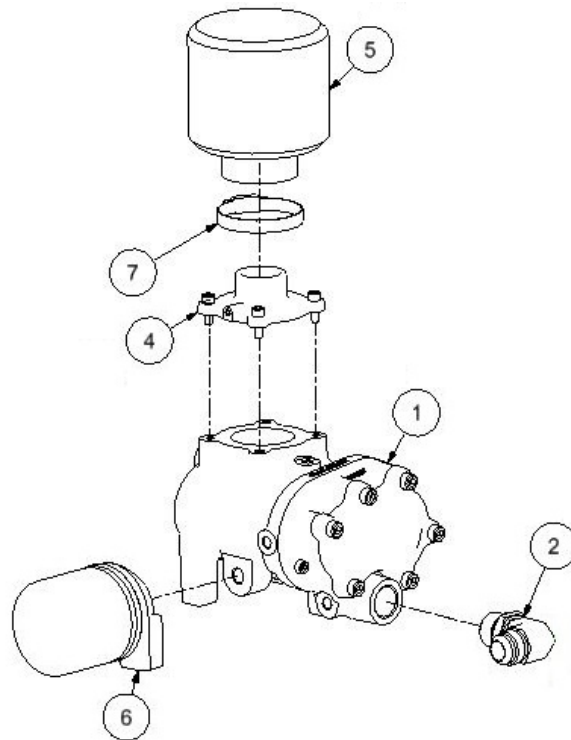

Figure 7-1 Compressor Air Filter
1. Loosen and remove the fastening band (7) and remove the filter element (5), see Figure 7-1 for details.
2. Visually inspect the filter element (5). Replace it if: